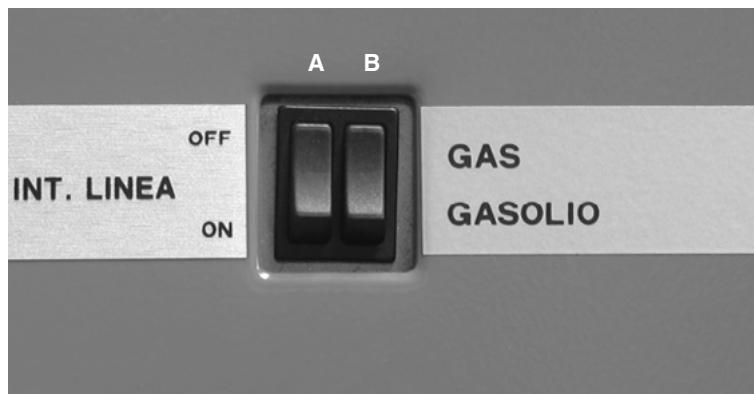

Fig. 19
- Choose the fuel with the switch B in Fig. 19, located on the burner casing.
- Turn on the power supply with the main switch A in Fig. 19.